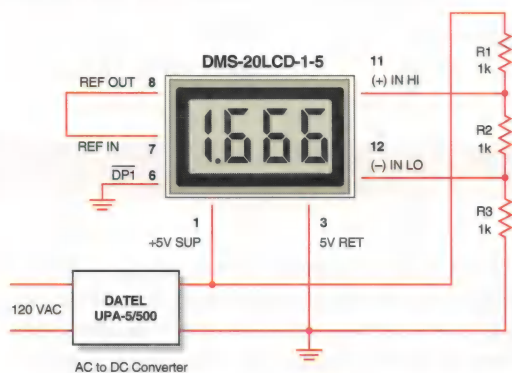

Figure 3. Differential Input Configuration
- 2. Differential Input Configurations:** Differential measurements can be made with either 5V-powered or 9V-powered meters. Figure 3, though not a practical real-world application, uses a voltage divider to demonstrate the concept of a differential input signal. Be careful not to exceed the  $\pm 2V$  common mode voltage limitation for 5V powered meters.